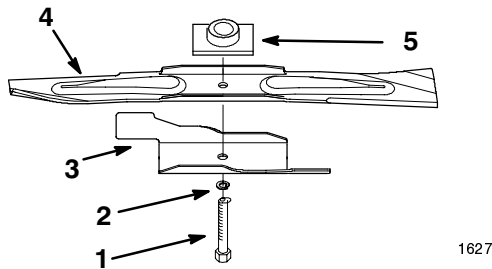

Figure 15
- Remove the blade bolt, the lock washer, the blade accelerator, and the blade (Fig. 15).
- Position the blade onto the spindle and blade driver, with the curved blade tips pointing toward the lawn mower and the blade driver nesting in the recess of the blade (Fig. 15).
- Install the accelerator, the lock washer, and the blade bolt (Fig. 15).